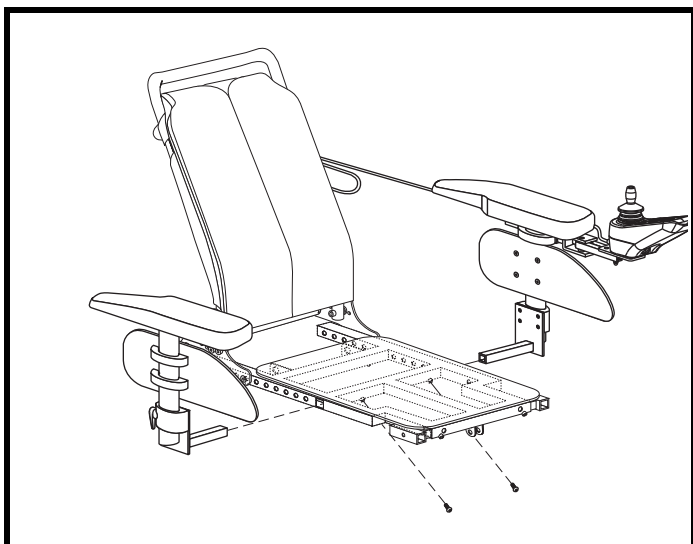

Figure 14. Seat Width Adjustment
2. Loosen the armrest receiver hardware. **See figure 14.**